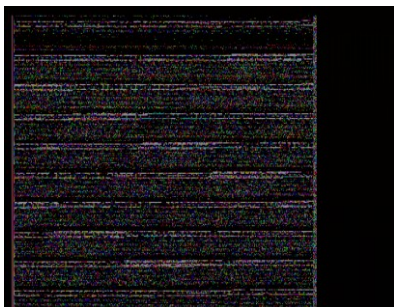

Figure 8: The visual appearance of the data for a firmware update
The firmware of the D520 can be updated through the Amiga. The data is encoded in a sequence of images and is transmitted through the video interface to the D520. When executed on the Amiga a flickering version of an image as shown in Figure 8 will appear.
1. Boot the update-ADF and wait until a flickering image as in Figure 8 appears